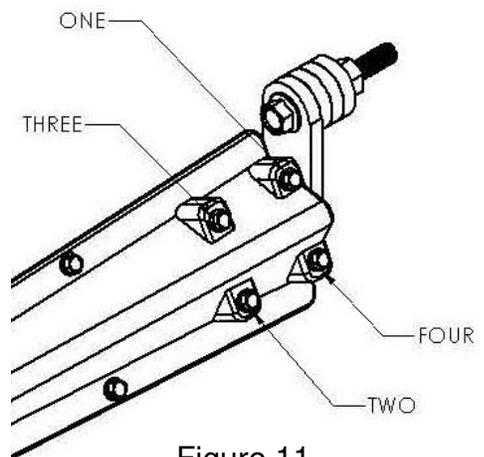

Figure 11
- TIP: Do not completely tighten one side of the backing block before moving to the other side. Alternate tightening bolts as pictured in Figure 11. Make sure to only tighten halfway and then repeat the pattern in Figure 11 until backing block is tight.**